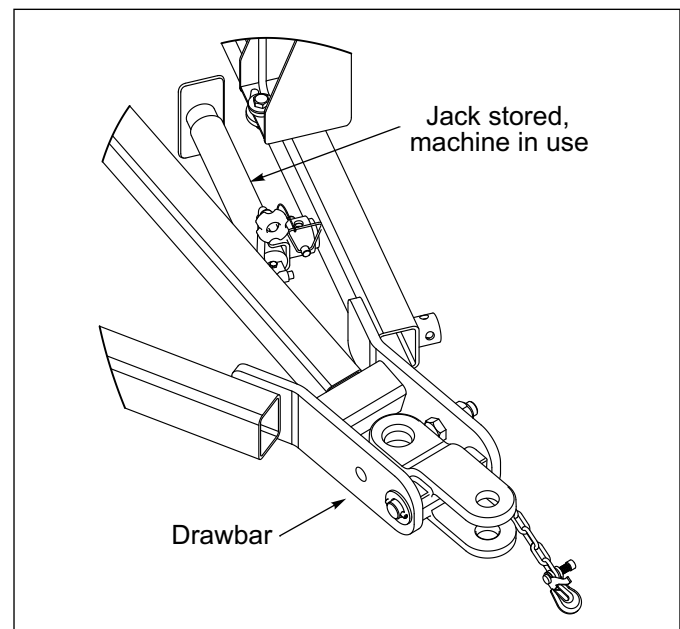

Figure 3-1: Jack Stored
2. If applicable, always move the jack to the interior mount before setting the machine in motion. **See Figure 3-1.**